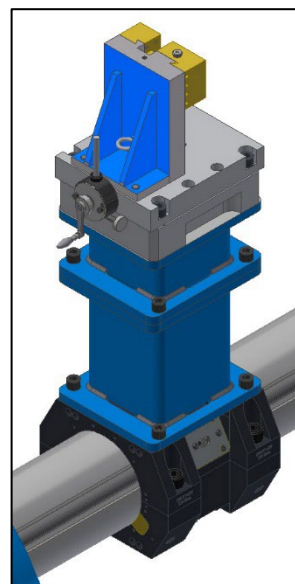
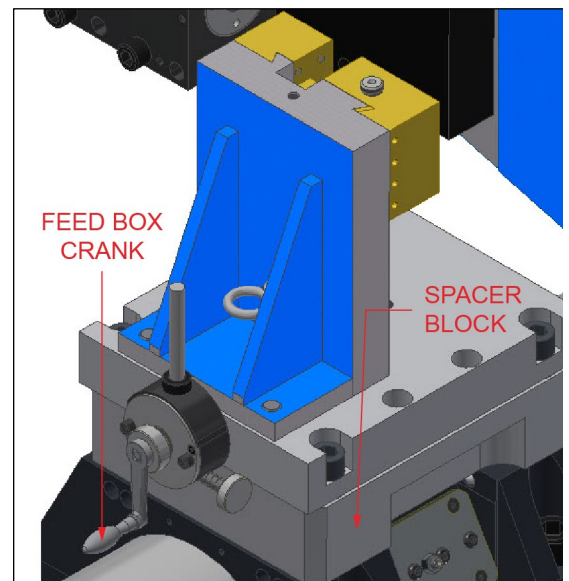

Figure 28. Facing head mounted with spacers to the tool carrier
Figure 32. Facing head mounted on spacers with feed box crank attached
- b) If at least one spacer is being used (see Figure 28), use the feed box crank to make manual adjustments and engage the auto feed. The feed box crank is a combination tool that remains attached to the facing head while in operation (see Figure 32 on page 38).